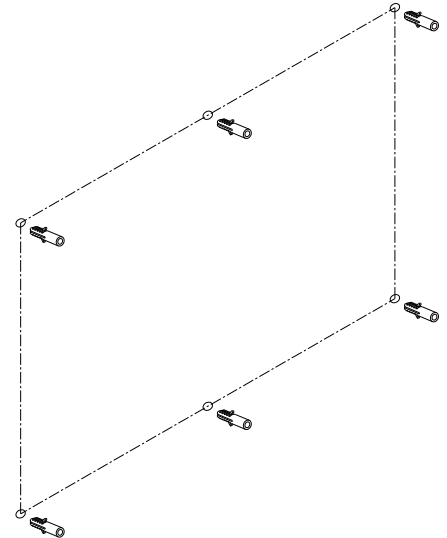

Fig. 4
4. Take away the bracket and then, using an 8mm or 1/4" drill bit, drill holes in the wall. Put the plastic wall anchors into the holes. (Fig. 4)